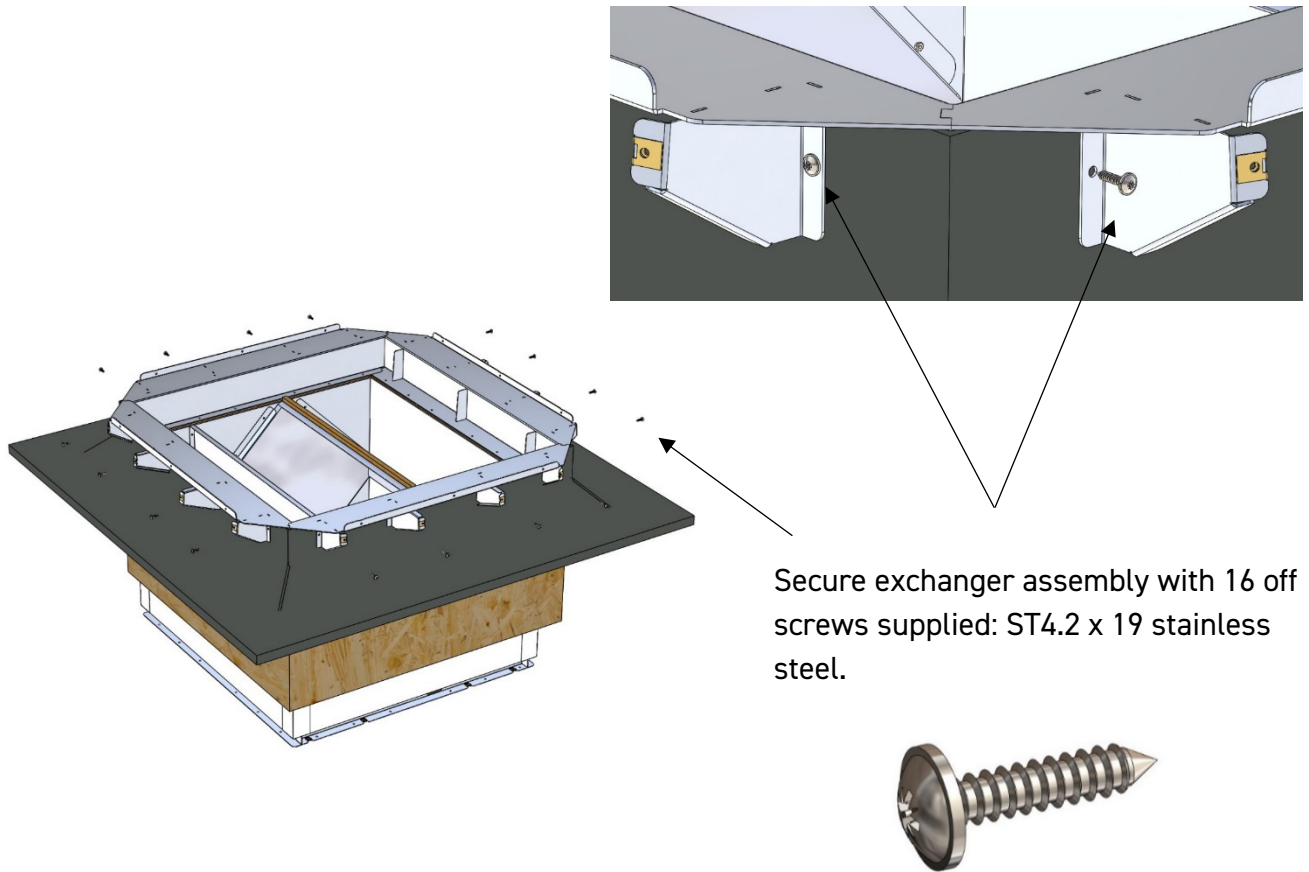

Figure 43 – Screw fixing locations for the heat exchanger.
3. Align screws with the holes in the heat exchanger and fix the heat exchanger frame to the timber upstand. Using the 16 number ST4.2 stainless screws supplied *4 per side* - *see figure 43.*